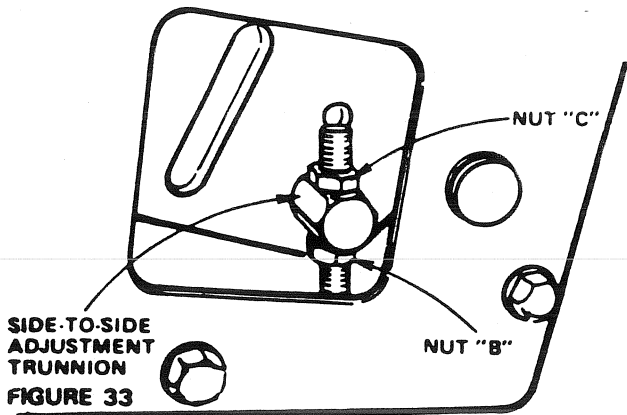

FIGURE 33
3. If distance "A" needs to be changed, snap out Access hole Cover on L.H. Side above Footrest. Use 9/16" wrench on Nuts "B" and "C" at side-to-side adjustment Trunnion (Fig. 33).